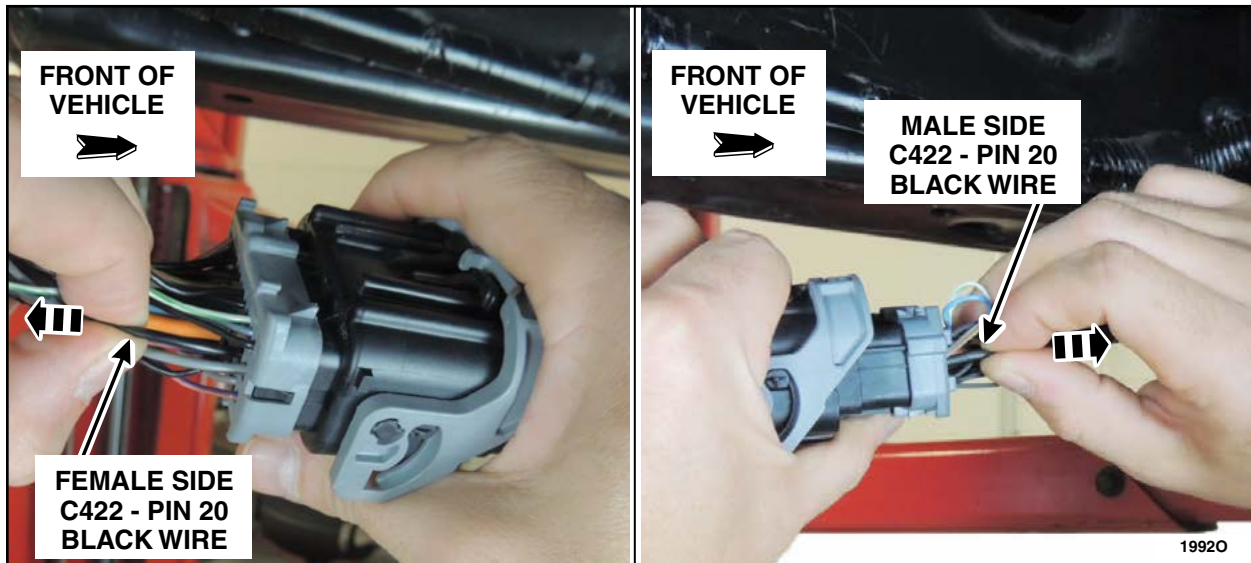

FIGURE 10
10. At connector C422, using your fingers pull outward on pin 20 (BK wire) on both sides of the C422 connector. Only apply enough pulling force to ensure the terminal is locked into the connector. Listen for the volt/ohm meters audible tone to either stop or intermittently break up as you pull on pin 20 (BK wire). If the terminal pulled out of the connector hard shell or the meters audible tone stop or intermittently broke up, record the side of the connector and the pin number on the repair order. Whether or not the terminal pulled out of the connector hard shell proceed to the next Step. See Figures 10, 11 and 12.